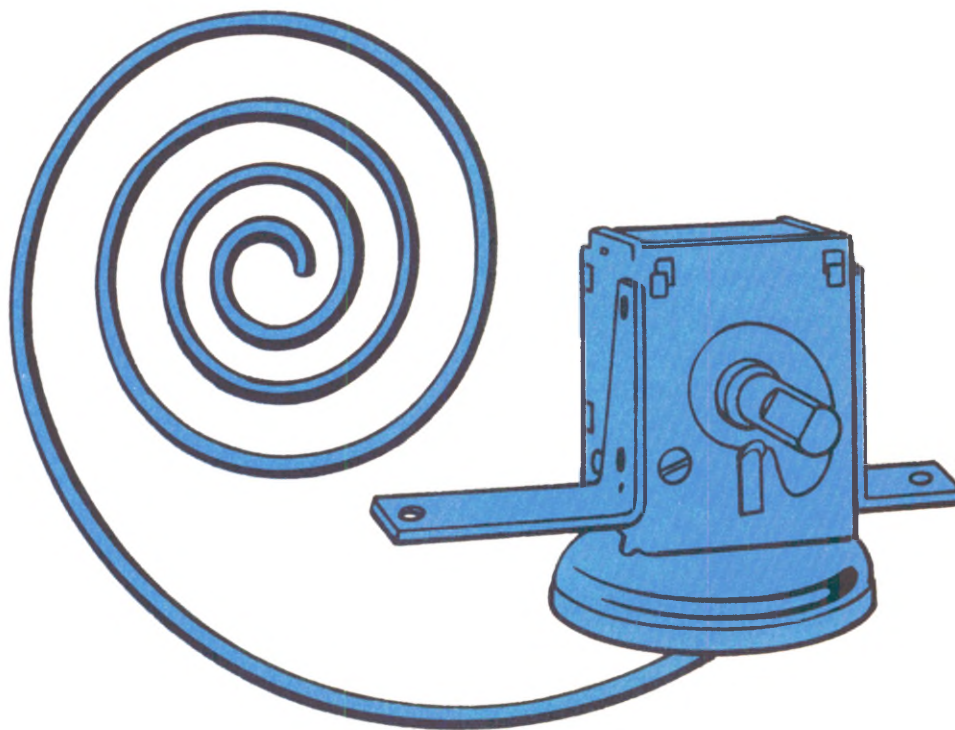

Fig. 2-33 — Thermostatic Switch
In cycling-clutch systems, the thermostatic switch (Fig. 2-33) is placed in series with the compressor clutch circuit so that it can turn the clutch on or off. It has two purposes:
2. On hang-on units or systems without "re-heat" temperature control, it also controls the air temperature by turning the compressor on and off intermittently. For this purpose it will have a control knob to change the switch setting (Fig. 2-33).